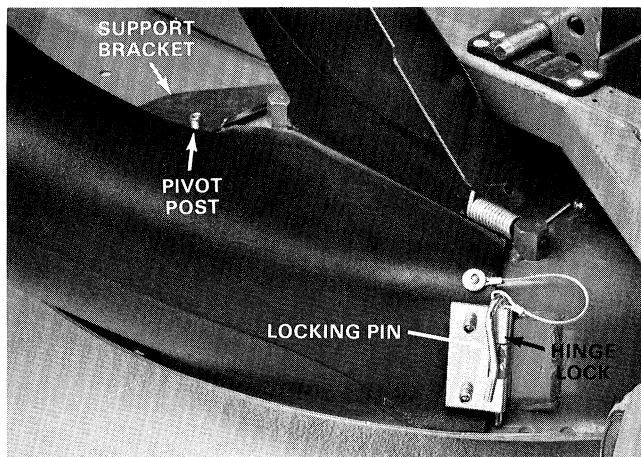

Figure 4
1. Slide chute assembly under deflector and into locking position with mating part of hinge lock. Insert locking pin (Fig. 4).